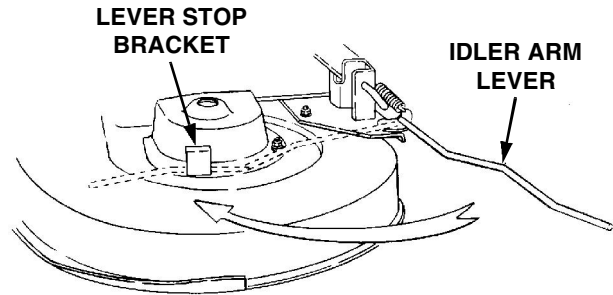

Figure 6-12
4. Engage the deck idler arm lever back into its stop bracket (See Figure 6-12).